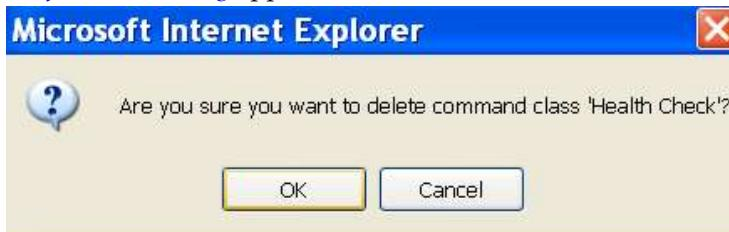

Figure 24: Delete CMI Command Class Confirmation Dialog
- A confirmation dialog box, similar to the one shown in Figure 24: Delete CMI Command Class Confirmation Dialog appears: